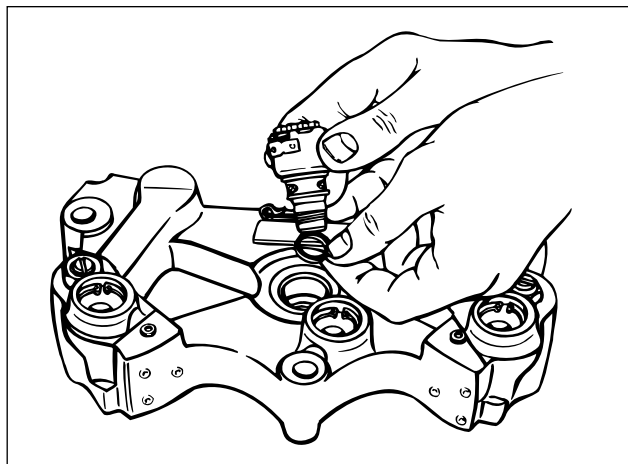

FIG. 23
5. Using new solenoid seal rings, coat them with clean lube oil. Install the upper and center seal rings on the solenoid body and the lower seal ring into the bottom of the solenoid bore in the housing (see Fig. 23).